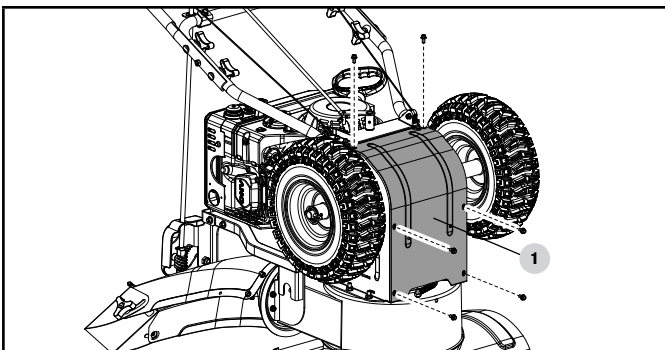

Figure 30
5. Remove the base frame cover (1) from the underside of the snowblower by removing the six M6 × 16 screws which secure it (Fig 30).